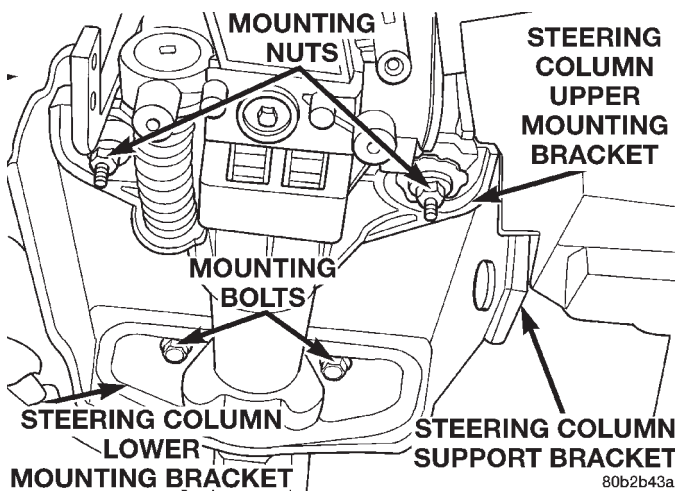

Fig. 25 Steering Column Mounting
(31) Remove the 2 steering column upper mounting bracket to support bracket nuts (Fig. 25). Then loosen the 2 bolts attaching the steering column lower mounting bracket to support bracket (Fig. 25).
(1) Install the steering column on the steering column support bracket. Loosely install the 2 steering column attaching nuts.
(2) Loosely tighten the 2 steering column upper mounting nuts (Fig. 25) to hold the steering column in place. Center the steering column in place, side to
side, then install the 2 lower mounting bolts (Fig. 25). Then equally tighten both steering column upper mounting nuts until upper steering column mounting bracket is seated against support bracket. Tighten the 4 steering column bracket to support bracket fasteners to 12 N·m (105 in. lbs.), tightening the upper mounting nuts first, then the lower mounting bolts.